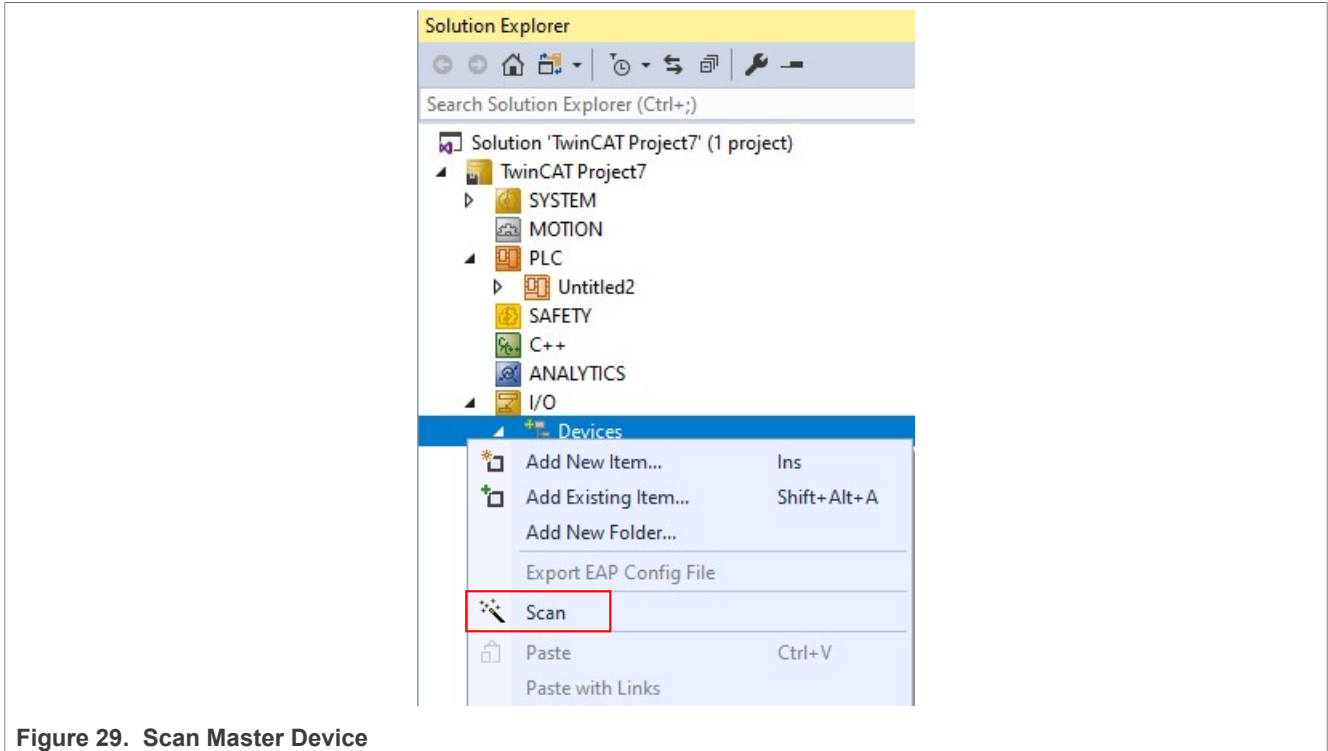

Figure 29. Scan Master Device
- Right click **Devices** and select **Scan**, as shown in Figure 29.